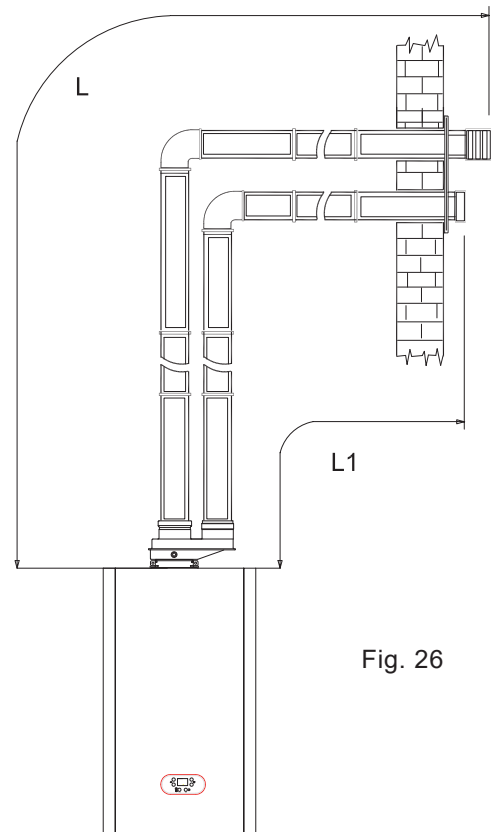

Fig. 26
**5.18 Exhaust/suction system with two separate pipes through a single vertical wall (fig. 26).**